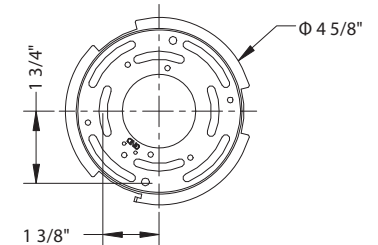

Fig. 4
14. For sloped ceiling applications, rotate the swivel at the top of the rods to ensure luminaire is aiming down (Fig. 4).